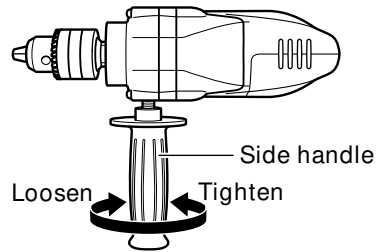

Fig. 6
9. Installing the side handle (Optional accessory) (Fig. 6)